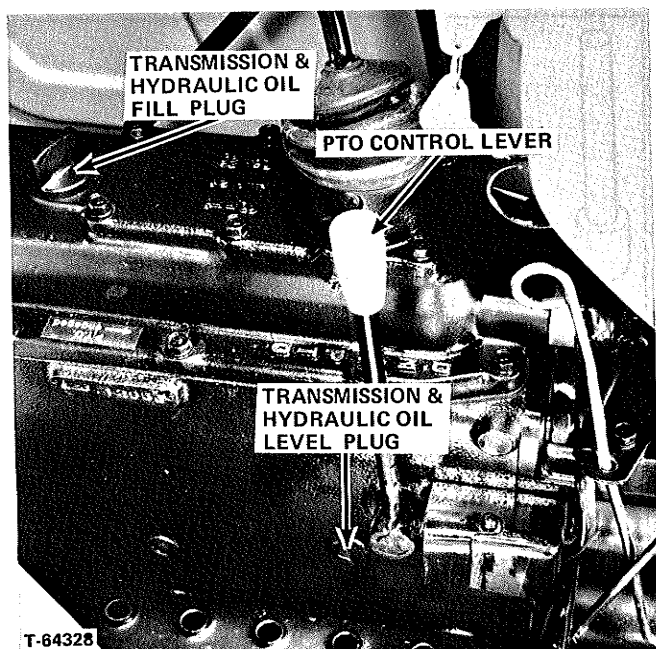

FIGURE 10 - R.H. Side
# **TRANSMISSION & HYDRAULIC SYSTEM OIL LEVEL** (Figures 10 and 11)
There is an oil level plug on the R.H. side, at rear of P.T.O. control lever, of transmission. (Figure 10). Maintain the oil to level plug. Check oil level every 10 hours or daily when tractor engine has been stopped for at least five (5) minutes and lift arms are in lowered position.
The oil fill plug is located directly to rear of transmission shift lever (Figure 10). Fill with Allis-Chalmers Power Fluid 821.